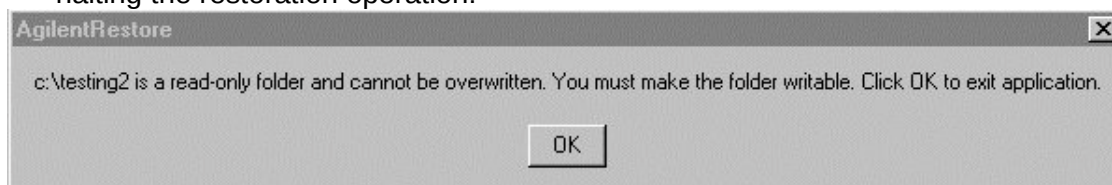

Figure 1-13 Destination Directory Does not Have Write Access
9. If the '**Destination Directory**' setting you selected has only read access, it cannot be overwritten and the following message is displayed (figure 1-13), halting the restoration operation: